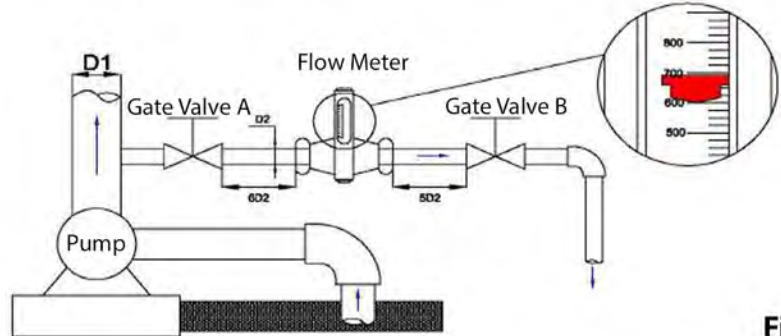

Fig. 1
2. When flow meter is in use and is in the piping manner in Fig. 1, Gate Valve A must be fully opened with Gate Valve B serves to control flow.